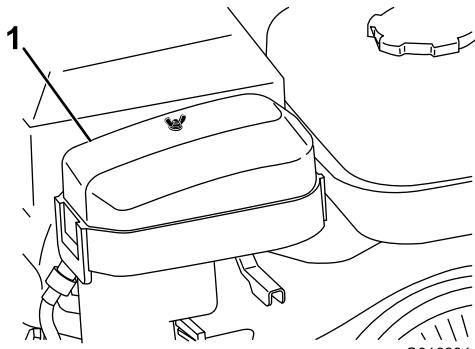

Figure 28
2. Remove the wing nut securing the air cleaner cover and remove the cover (Figure 28).